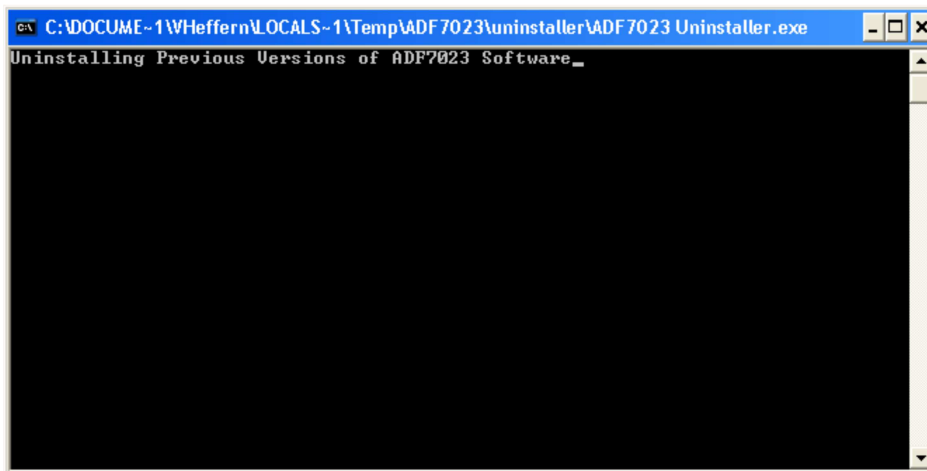

Figure 1
1. Run **ADF7023 Rev1.5.4 FULL.exe** to install the evaluation software for the ADF7023. The install will place the relevant files in the folder C:\Program Files\Analog Devices BV\ADF7023. It will also create shortcuts on the start menu. Any previous versions of the software will be removed before the installation commences (Figure 1).